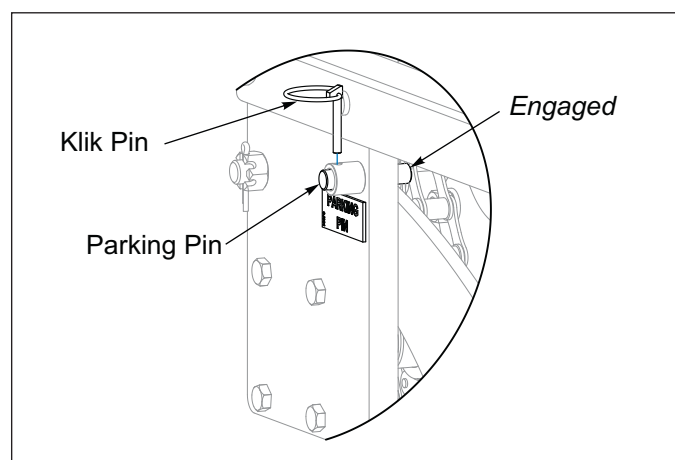

Figure 2-6: Parking Pin Engaged
4. Be sure Parking Pin is locking Rear Roller down and raise the Seeder. **See Figure 2-6.**
5. Be sure Parking Pin is locking Rear Roller down and raise the Seeder. **See Figure 2-6.**